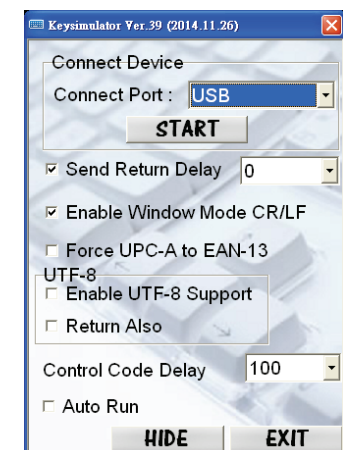

Figure 1
(Figure 1).
5. Click "Start" to complete the setup procedure (Figure 1).